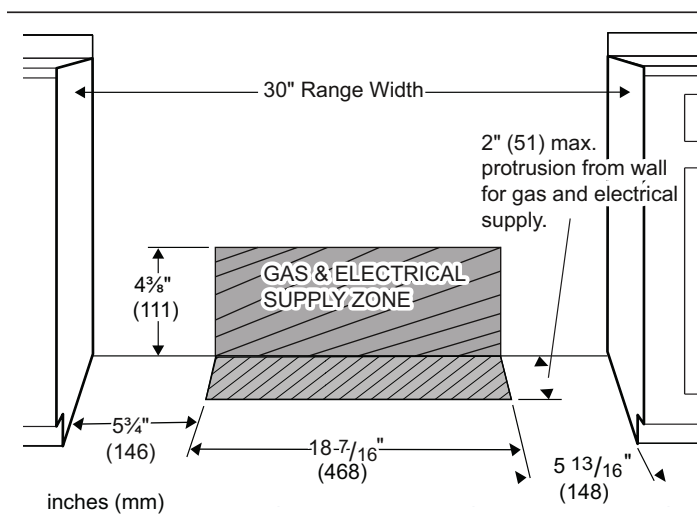

Figure 4: Gas & Electrical Supply Locations
- The gas and electrical supply should be within the zones shown in *Figure 4* on page 10.